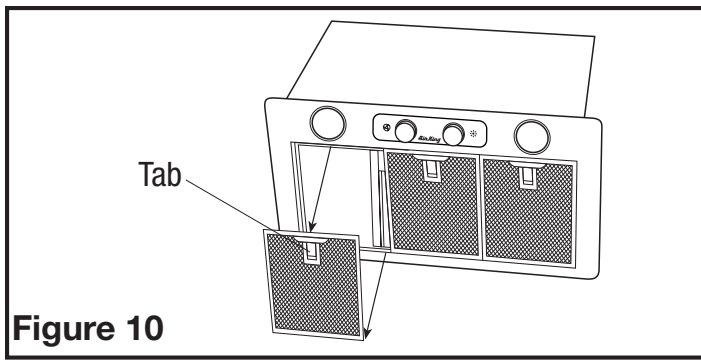

Figure 10
- To remove the filters, pull down on the handle tab until the filter releases from the unit. To reinstall, slide tab at rear of filter into slot in the unit. While holding in handle of filter, lift filter into place and release handle. The filter should snap securely into place (**Figure 10**).